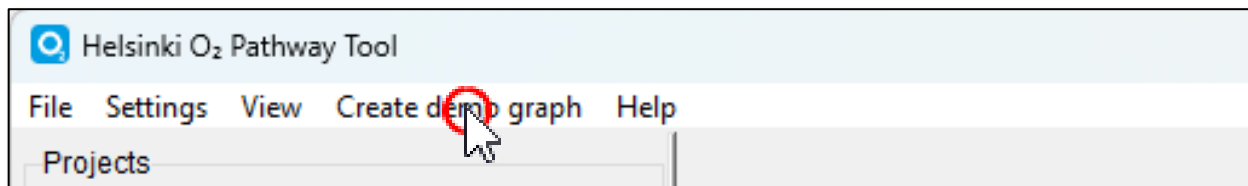

Figure 33
2. Click the “**Create demo graph**” option from the main menu bar (Figure 33).